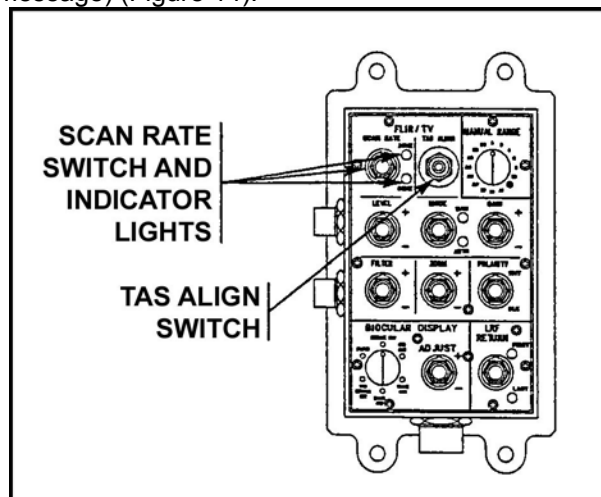

Figure 14. TAS ALIGN button.
- (b) Press target acquisition system alignment button on the GSCP (If required by an IBAS message) (Figure 14).